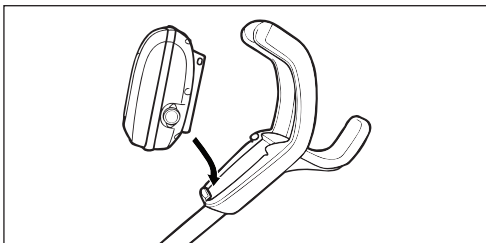

Figure 1. Align Control Unit with Caddy Hook
1. Align the bottom of the control unit with the notch at bottom of the control unit hook on the caddy (Figure 1).